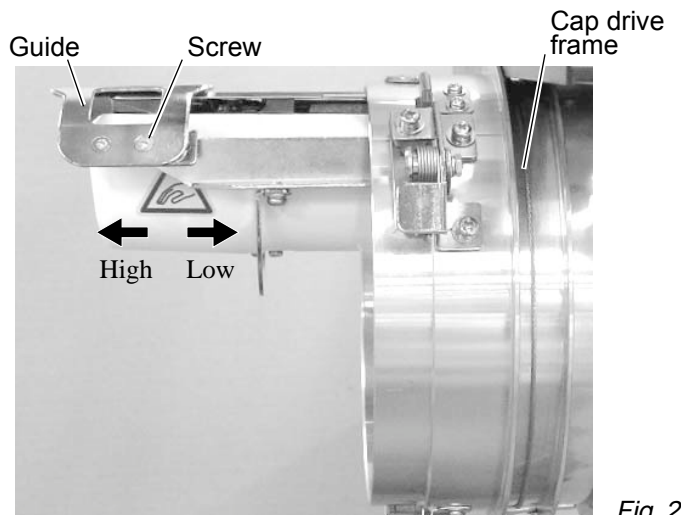

Fig. 2
2. Adjust the guide position to suit the height of the cap. Remove screws at left and right to adjust. (Fig. 2)